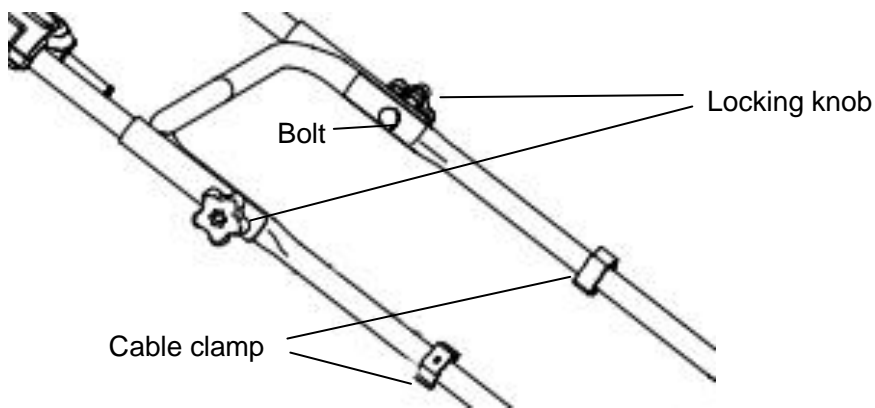

Fig. 2C
3. Fix the upper handle and lower handle with a bolt and locking knob. (Fig.2C)
4. Attach the cable clamp to the position shown and then attach the cable. (Fig.2C)